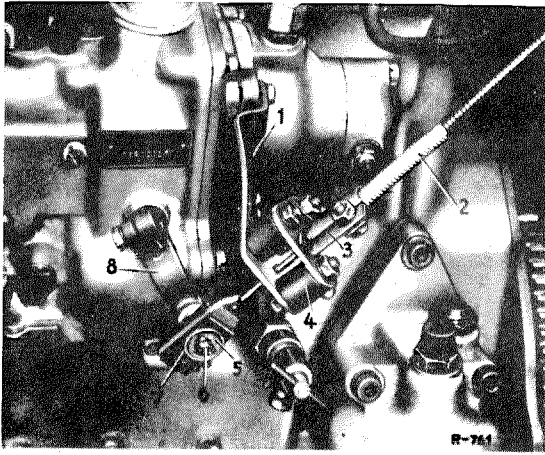

Fig. 30-11/1
Note: Do not install a spring washer since such a washer would increase the tension so much that the cable might jam on the lever. The rubber strap (7) of the end piece should in fact have some lateral play between the lever (8) and the dished washer (5) in order to prevent jamming in any case (Fig. 30-11/1).